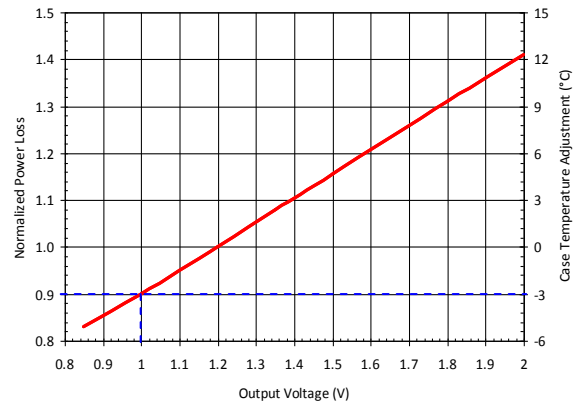

Figure 11: Normalized Power Loss vs. Output Voltage
- 3) Determine the output voltage normalizing factor with $V_{OUT}=1V$, which is 0.90 based on the dashed lines in Figure 11.